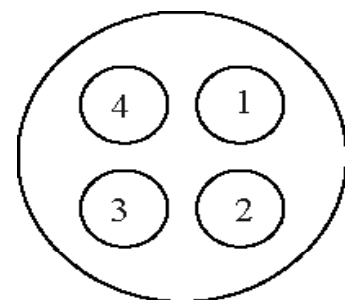

Figure 7 View into Bias output connector showing channel positions.
- 2 Bias lead carrying the four bias supplies, one for each strip, supplied, see Figure 7 on page 14.